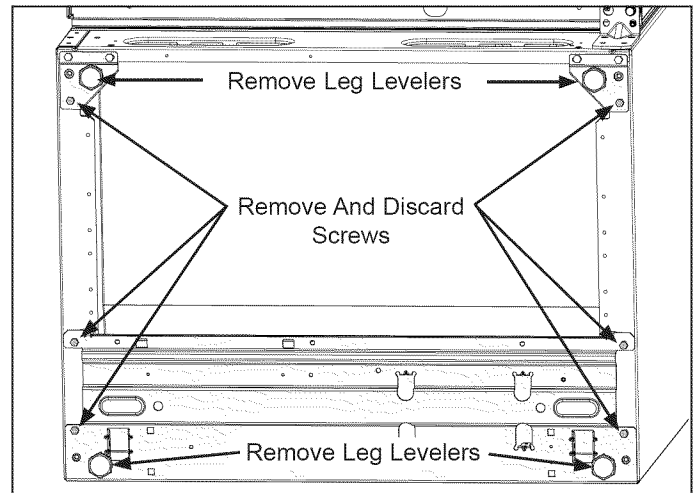

Figure 3.
- b. Remove (3) screws from each side and discard. (See Figure 3)